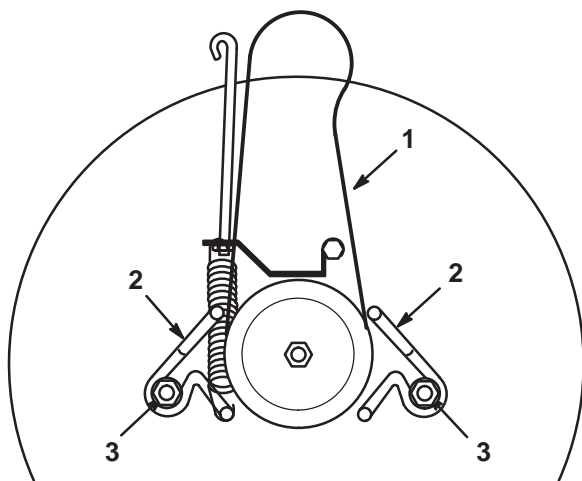

Figure 41
- Loosen the belt guide mounting bolts and move the belt guides away from the pulley (Fig. 41).
- Install the new blade drive belt around the blade pulley and inside both of the belt guides (Fig. 41).
- Adjust the belt guides so they are 1/8 in. (3 mm) away from the pulley. Tighten the mounting bolts (Fig. 41).